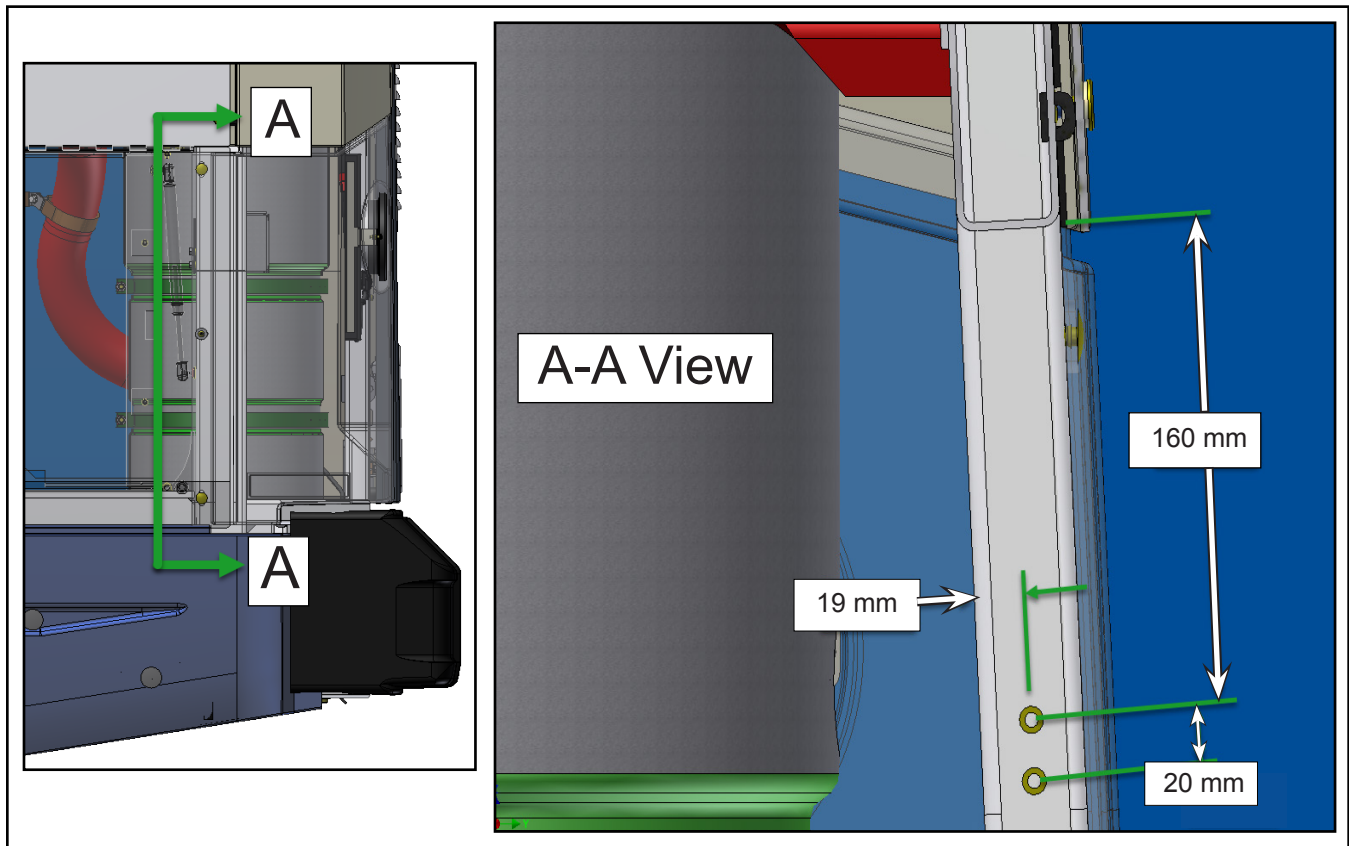

Figure 4 - Typical View of Deflector Position Marking
- 1.4. Mark where to drill the holes on the structure tube. Use the deflector as a jig (see Figure 4).